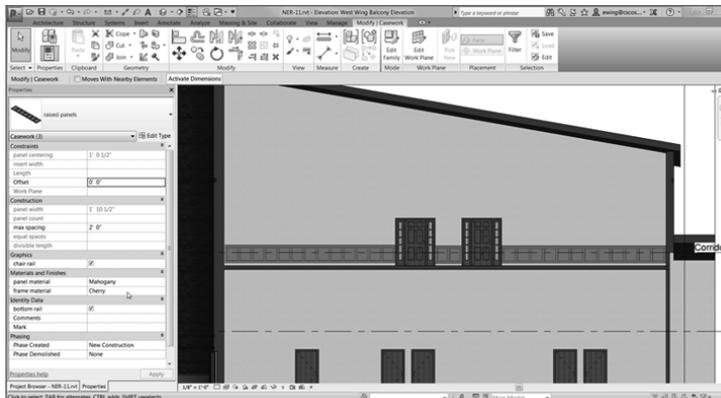

FIGURE 10.77: Changing the material
- Change Panel Material to Mahogany. See Figure 10.77.